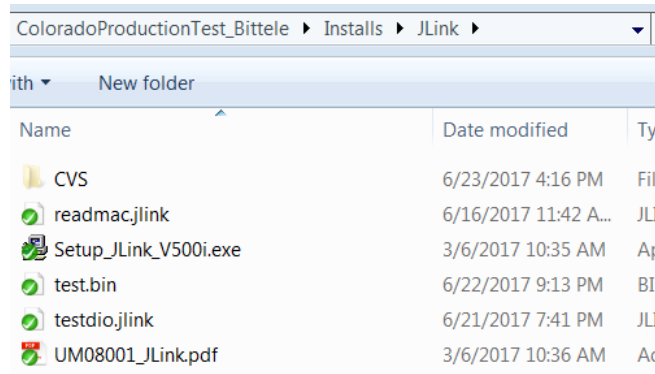

Figure 7: Install file for the JLink application.
- a. Navigate to **ColoradoProductionTest_Bittele\Installs\JLink**. See Figure 7.